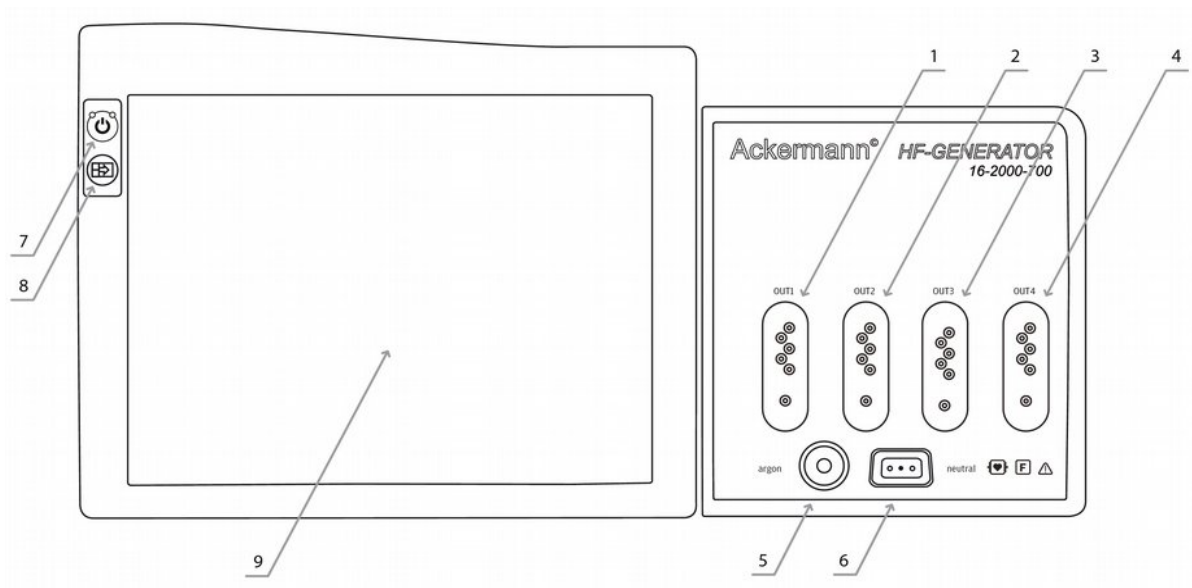

Fig. 2. HF 16-2000-700 frontside view (Version II).
In Version II, the HF 16-2000-700 system has four universal ASD outputs with instrument detection (**Fig. 2 items 1, 2, 3, 4**).
The front panel of the HF 16-2000-700 system (Version II) contains the following items (**Fig. 2**):